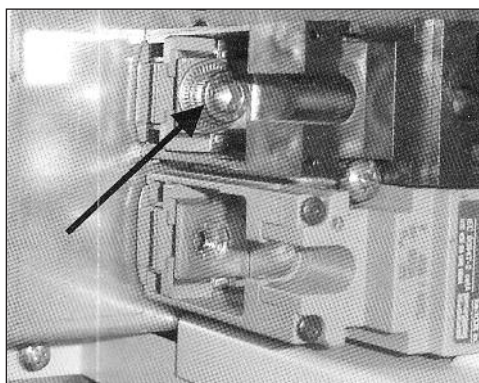

Fig 5
- h Tighten cable terminal connections (Fig 5). For 250A tighten M8 cap screw to 15Nm and 630A tighten M10 cap screw to 50Nm.